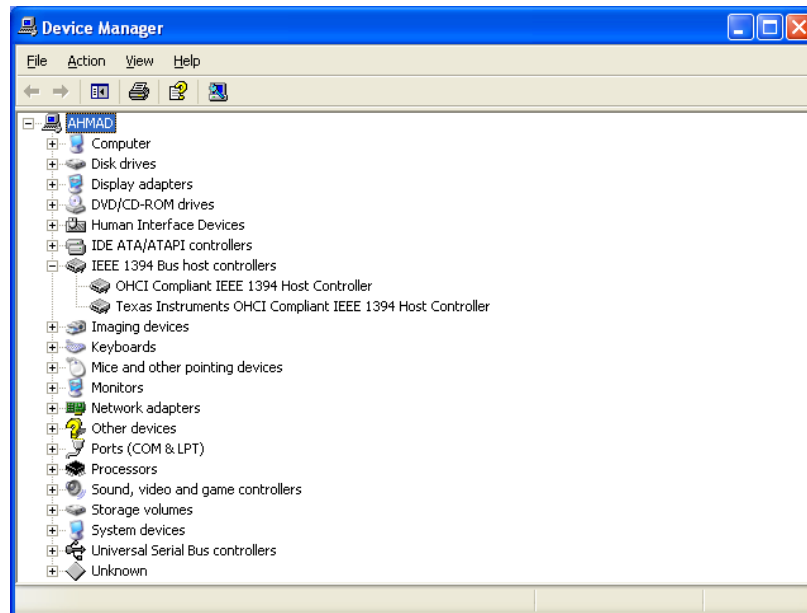

Figure 1: The *Device Manager* dialog, showing that the computer detected the 1394 bus controller and the PCI card is correctly installed.
7. To ensure that the PCI card is properly installed, open the Windows Control Panel, click on the *System* icon, then the *Hardware* tab and finally select *Device Manager*. The presence of the *IEEE 1394 Bus host controller* entry as shown in fig. 1 indicates that the PCI card has successfully been installed.